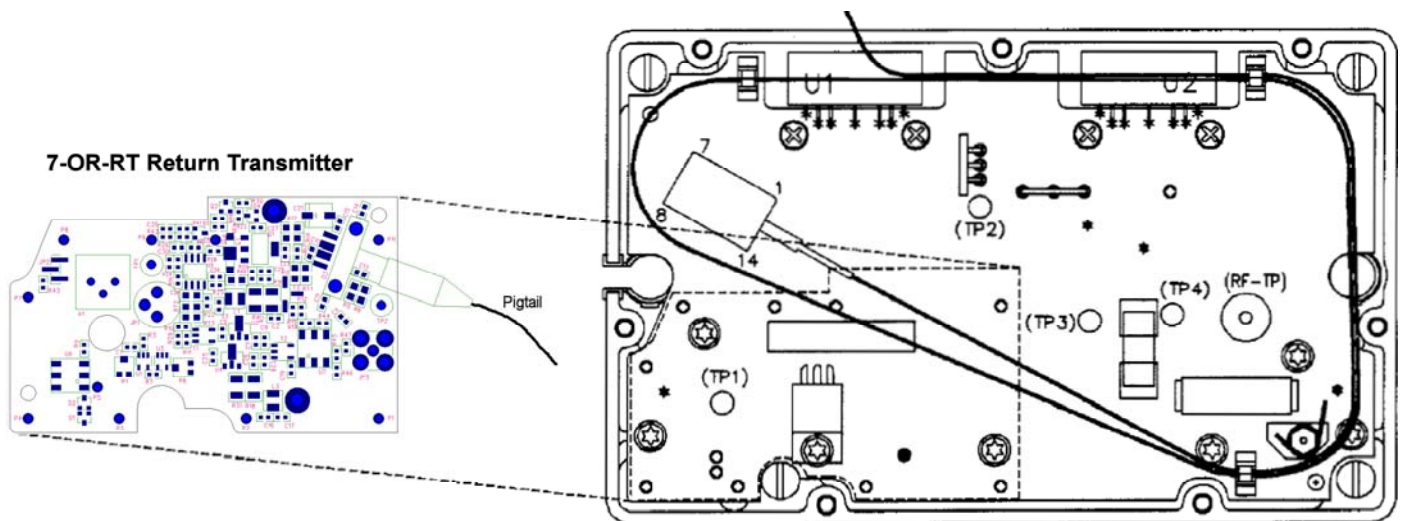

Figure 5 - Mounting the 7-OR-RT Return Transmitter into the 7-OR Node
1. With a TORX TX09 driver, loosen the seven screws holding the optical cover in place. Notice that besides protecting the optical receiver's main circuit board, the optical cover also has markings that indicate where you will install the 7-OR-RT return transmitter. See Figure 5 for a detailed view.